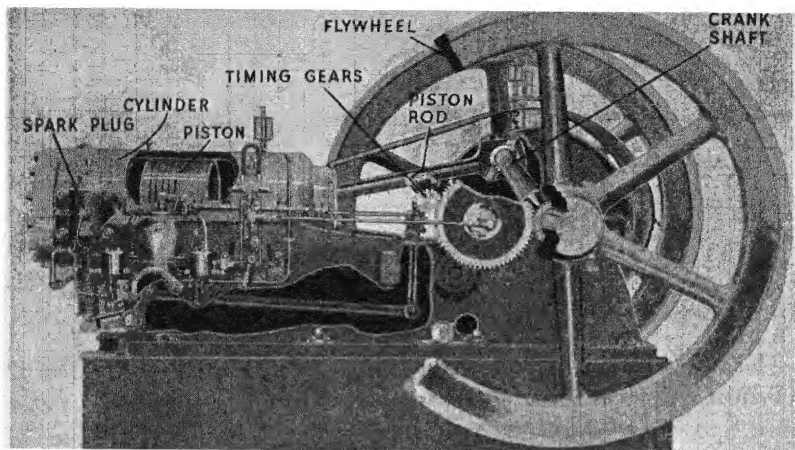

FIG. 480. The parts of a simple one-cylinder gasoline engine
HOW DOES THE ENERGY OF BURNING FUEL RUN A GASOLINE ENGINE? Like a steam engine, a simple gasoline engine has a cylinder, piston, crank, crank shaft, eccentrics, and a flywheel. Find these parts in Figure 480. In addition, the gasoline engine needs two parts that a steam engine does not have: (1) It must have a way to mix the gasoline with the air. (2) It must have a way to ignite the gasoline at the right time. The *carburetor* mixes air and gasoline in the right proportions, and an electric spark sets the mixture on fire.